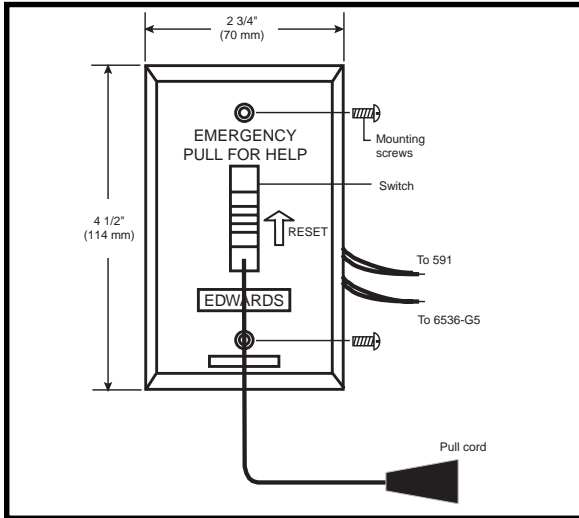

Figure 2. Catalog No. 6537 Pull Cord Switch
5. Reset the unit using the switch on the cover of the Cat. No. 6537 Pull Cord (Figure 2).